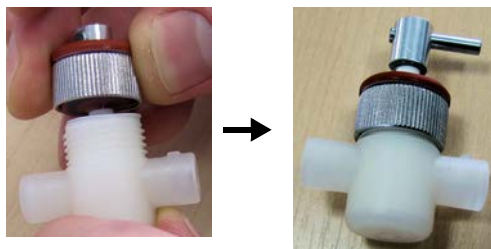

Figure 9-30. Screwing arrangement onto T-piece
9. Screw the arrangement consisting of plunger, seals and cap onto the T-piece. See Figure 9-30.